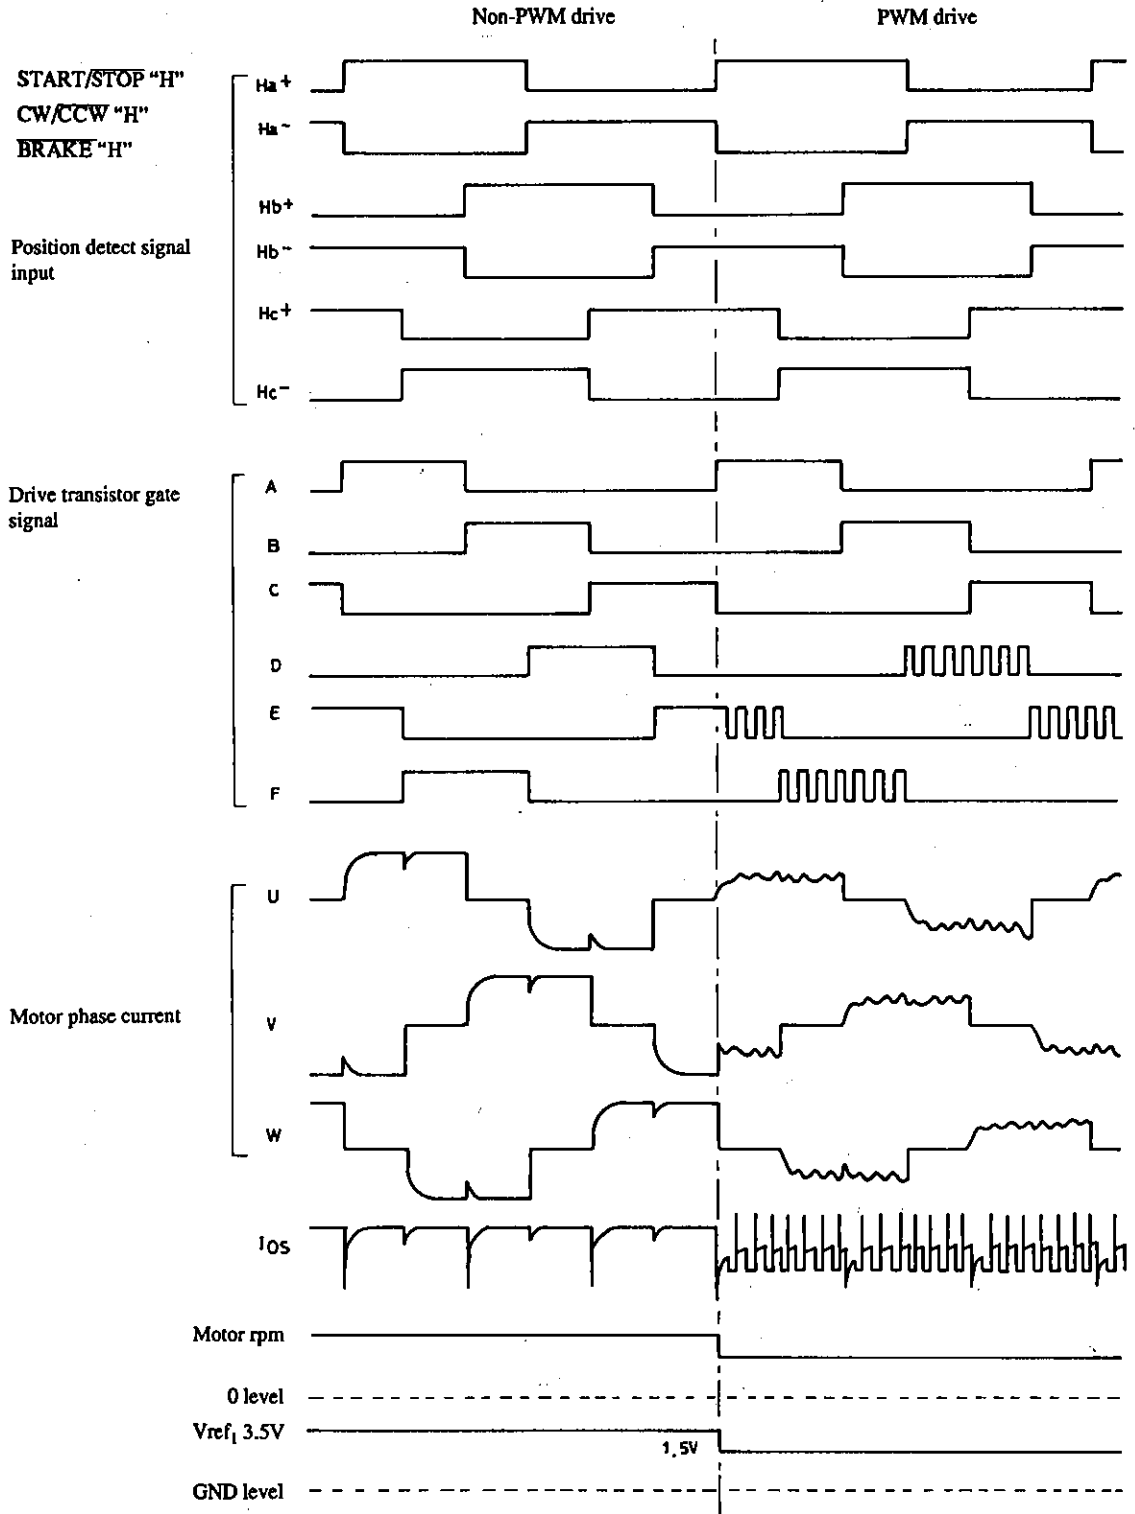

Fig. 3 I/O Timing Chart
The conditions before input of  $V_{CC1}$ , with  $V_{CC2}$  on, are  $\overline{START/STOP}$  pin H level,  $\overline{CW/CCW}$  pin H level,  $\overline{BRAKE}$  pin H level and  $V_{ref1}$  pin (speed control input) H level. The position detect signal at this time, due to the effect of the rotor magnetic field, will be output signals from 1 or 2 devices (of the 3) so that  $H_{X+} > H_{X-}$  is input to HIC pins 7-12. The signals input to pins 7-12 are input to the motor controller and converted into signals compatible with 3-phase brushless motor revolution. When  $V_{CC1}$  is supplied the charge pump circuit activates, generating  $V_{CC1}$  MOSFET gate voltage  $V_Z$ . This outputs excitation current to the motor phase windings as indicated in the timing chart (Fig. 3), and rotating the motor.
The direction of motor revolution can be selected by setting the input level to H or L. CW is H level and CCW is L level. The CW timing chart is indicated in Fig. 3, and the CCW timing chart in Fig. 5.
Because signal input sensitivity  $V_H$  is  $\pm 500\text{ mV}$  max, the level of the output signal (open collector) from the Hall IC must be reduced through conversion. A sample of this circuit is shown in Fig. 7. The position detect signal must be compatible with the motor phase winding even in the time chart state shown in Fig. 3, or the motor may not revolve smoothly.